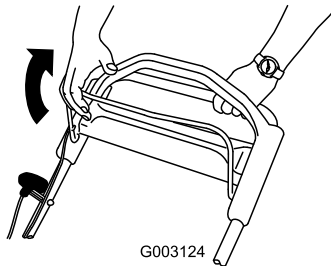

Figure 18
2. Pull the blade control bar to the handle (Figure 18).